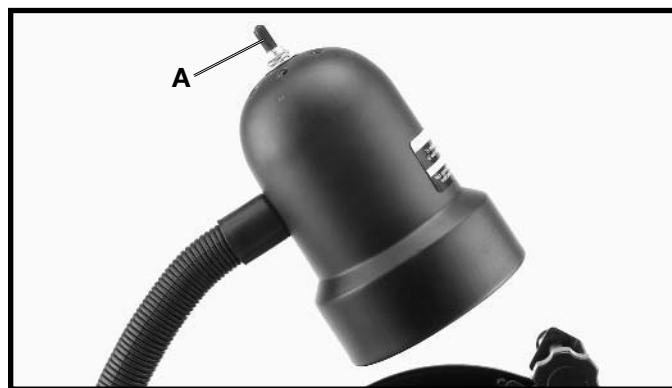

Fig. 11
The flexible lamp operates independently of the grinder. To turn the lamp on and off, rotate switch (A) Fig. 11.